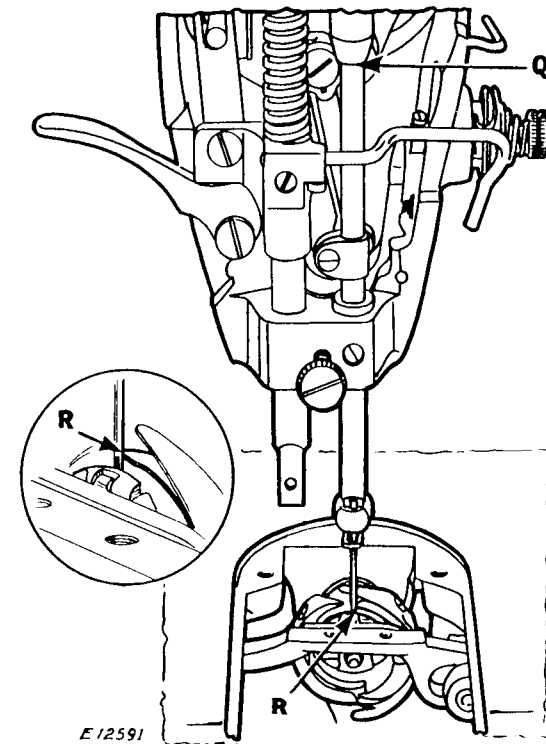
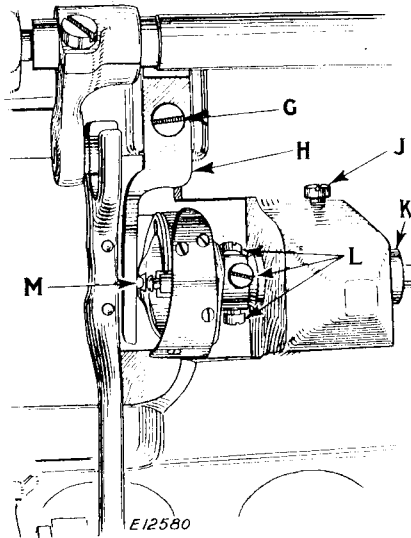
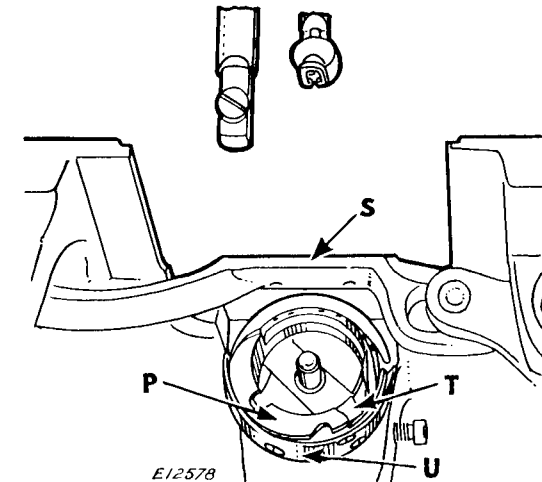

Fig.21. Needle and Sewing Hook Correctly Timed
Fig. 22. View of Underside of Machine Showing Bobbin Case Holder Position Bracket (H) and Adjustments on Machine
Fig. 23. Showing Correct Position of Thread Guard (U) and Bobbin Case Holder (P) for Removal of Sewing Hook
To determine that the hook is correctly timed, place a new needle in the machine, then turn the balance wheel over toward you until the LOWER TIMING MARK on the needle bar is centered with the lower end of the needle bar bushing as shown at (Q, Fig. 21). When the needle bar is on its upward stroke, the point of the hook should be at the center of the needle as shown at (R, Fig. 21). The inset in circle at the left of Fig. 21 plainly shows this position of the hook point relative to the needle.
In case the hook is not correctly timed, loosen the three screws (L, Fig. 22) in the hub of the hook. These three screws can be reached from the top of the machine bed through the open-
ing left by the removal of the throat plate, although, for purposes of illustration, the screws are shown only in the view of the underside of the machine in Fig. 22. Rotating the balance wheel of the machine will bring these screws, one at a time, directly under the throat plate opening where they can be easily reached with a screwdriver from the top of the machine bed.
After loosening the three screws (L, Fig. 22) turn the hook on its shaft to bring the point of the hook at the center of the needle as shown at (R, Fig. 21), then tighten the three screws (L, Fig. 22).
The hook should be set as close as possible to the needle without touching. If the hook is too close to the needle or too far away from it, loosen the three screws (L, Fig. 22) and the bushing screw (J, Fig. 22) and drive the bushing (K, Fig. 22) in or out, as may be required, until the hook just clears the needle, being very careful not to damage the bushing, then securely tighten the bushing screw (J) and the three screws (L).
Remove the needle, slide plate and bobbin case. Take out the screw (G, Fig. 22) and remove the bobbin case holder position
bracket (H, Fig. 22). Loosen the three set screws (L, Fig. 22) in the hub of the hook, then turn the balance wheel over toward you until the feed bar (S, Fig. 23) is raised to its highest point. Turn the sewing hook until the thread guard (U, Fig. 23) is at the bottom, as shown in Fig. 23, and turn the bobbin case holder (P, Fig. 23) until it is in the position shown in Fig. 23. The sewing hook can then be removed from the hook shaft.
When placing a new sewing hook on the shaft, have the thread guard (U) of the hook at the bottom and the bobbin case holder (P) turned to the position shown in Fig. 23, so that the hook will clear the feed bar (S).
When the hook is in position on the shaft, turn the bobbin case holder (P, Fig. 23) until the notch (T, Fig. 23) is at the top, then replace the bobbin case holder position bracket (H, Fig. 22) being careful to see that the position stud (M, Fig. 22) enters the notch at the top of the bobbin case holder, as shown in Fig. 22,
then securely fasten the position bracket by means of the screw (G, Fig. 22). Replace the needle and time the sewing hook as instructed on pages 17 and 18. When tightening the three screws (L, Fig. 22) in the hub of the hook, draw the hook shaft toward the needle bar end of the machine and press the hook toward the balance wheel to take up the end play in the shaft. Then replace the bobbin case and slide plate.